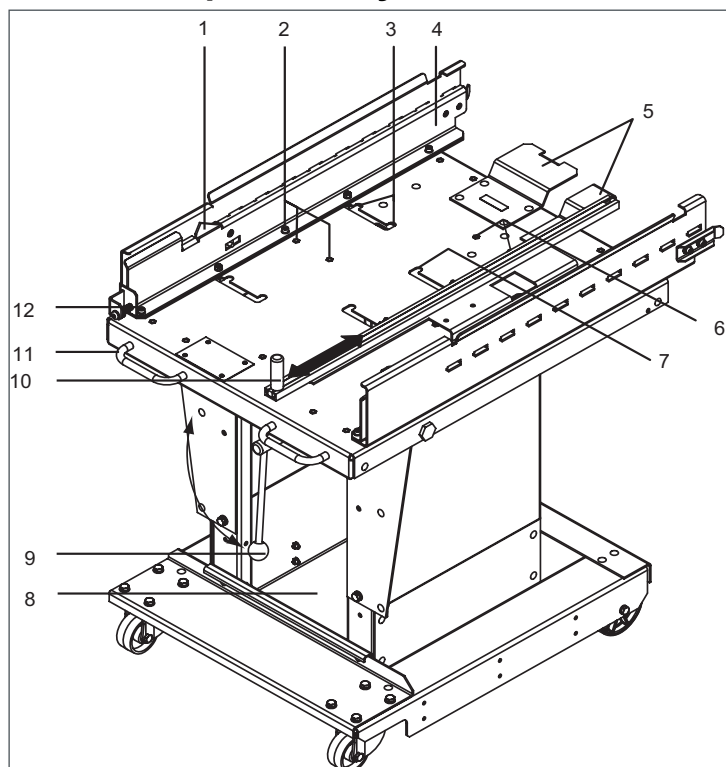

Fig. 12.1
- Release 3 screws on each track (Fig. 12.1, 2).
- Adapt position of unlocking bar (10) also to the appropriate panel (same procedure).